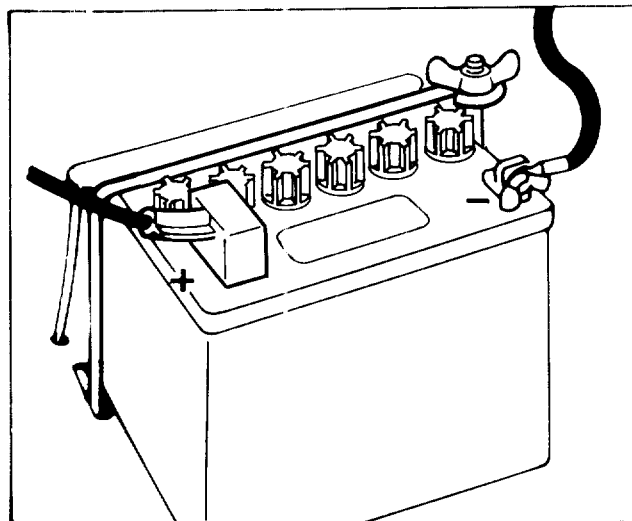

Figure 5
9. Install the battery with the terminal posts toward the rear of the machine and vent tube on left side of battery, thru hole in frame (Fig. 5).
11. Install the positive cable (rubber boot over end) to the positive (+) terminal and the negative cable (black) to the negative (-) terminal of the battery and secure with capscrews and wing nuts. Slide the rubber boot over the positive terminal to prevent possible short-out from occurring (Fig. 5).